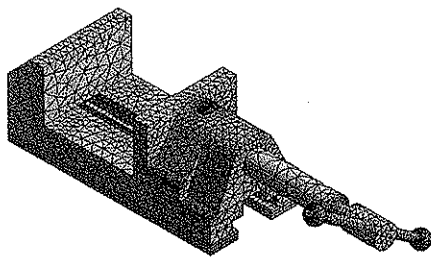

Figure 8-23 Mesh generated with changed global mesh control settings
17. Choose the **Update** tool from the **Mesh** contextual toolbar; the mesh is generated with changed global mesh control settings, as shown in Figure 8-23.
The default value in the **Num Cells Across Gap** edit box available in the **Sizing** node is 3. In this tutorial, you have specified the value 2, which means that ANSYS will maintain 2 cells across thin regions of the model, refer to Figure 8-23. The approximate number of elements generated will be 65000.